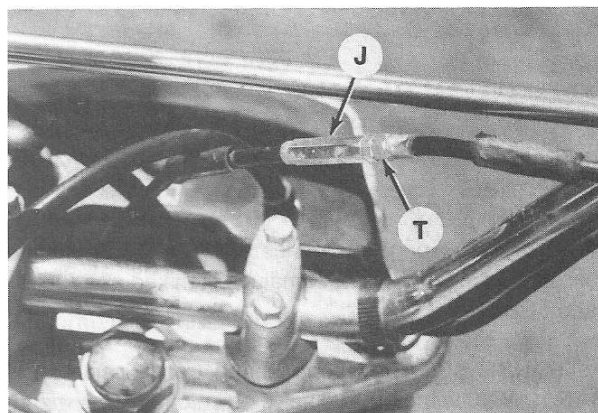

Fig. Y10-4—On Model YTZ250N, adjust throttle lever free play by loosening locknut (T) and rotating adjuster (J).
CARBURETOR. The carburetor is connected to the throttle lever by a cable. Throttle lever free play (F—Fig. Y10-3) should be 3-5 mm (0.12-0.20 in.) measured at outer end of lever. On Model YTZ250N, adjust throttle lever free play by loosening locknut (T—Fig. Y10-4) then rotating adjuster (J). Retighten locknut (T) to secure adjustment. On Model YTZ250S, adjust throttle lever free play by first sliding dust boot (D—Fig. Y10-3) down cable. Loosen locknut (N), then rotate cable adjuster (A) until recommended free play (F) is obtained. Tighten locknut (N) to retain adjustment and install dust boot (D).